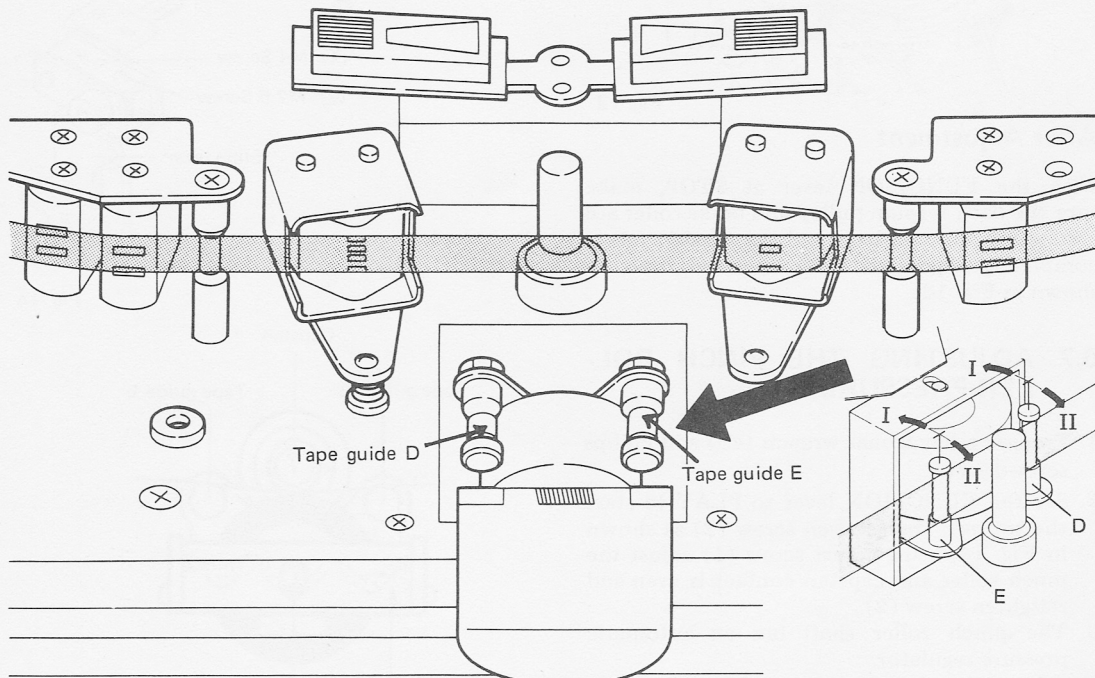

Fig. 17
3. If the traveling height changes, refer to the following table. Tilt the tape guides D or E in the directions indicated by arrows in Fig. 17.